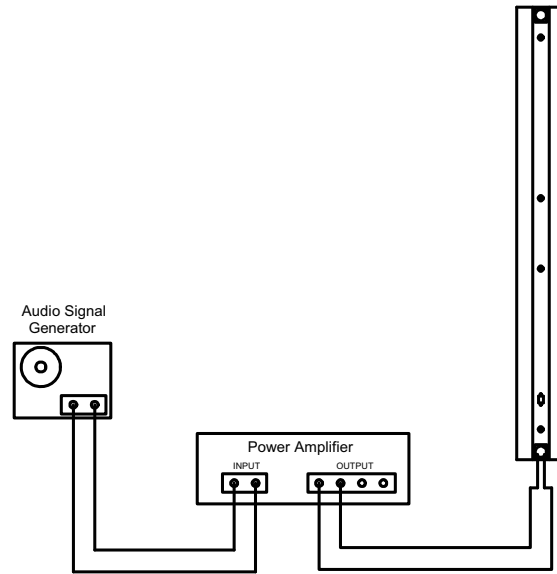

Figure 5. Panaray® MA12EX Test Setup Diagram
1.1 Set up the system for test as shown in Figure 5 above.
4.1 Set up the system for test as shown in Figure 5.